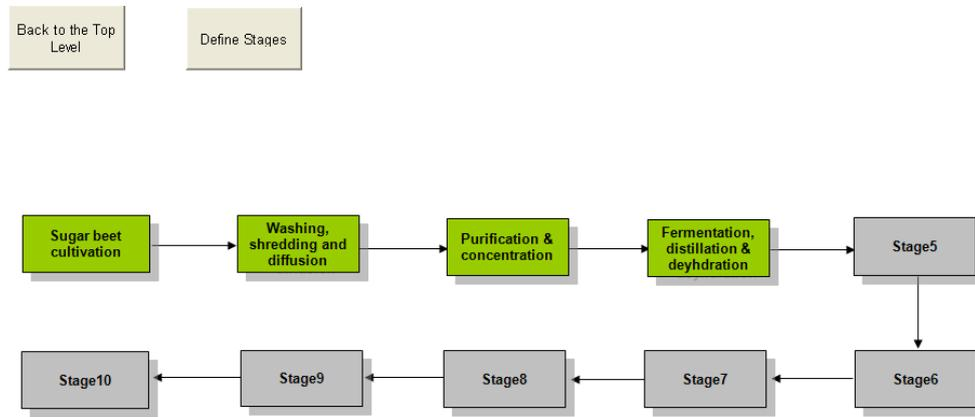
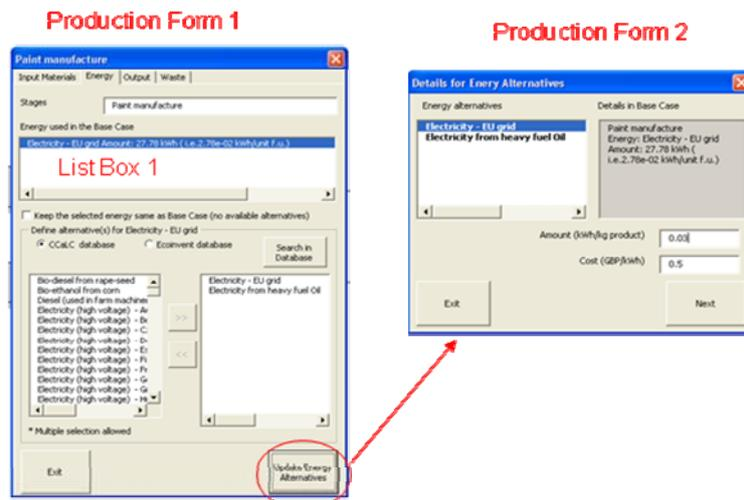

Figure 13 The layout of the production stages
Figure 14 The form for energy in the production stage
The information on the production stage can be reviewed by clicking on the *Production* box at the top level (Figure 13).
- Click the box 'Production' at the top level to go to the production stages (Figure 13). This activates the *Production Form 1* (see Figure 14). The form has the 'Input Materials', 'Energy', 'Output' and 'Waste' tabs. The user can review the defined information by selecting tabs.
The energy options used are listed in *List Box 1* (Figure 14). The alternatives for the base case energy are listed in the alternative(s) list on the right-hand side.